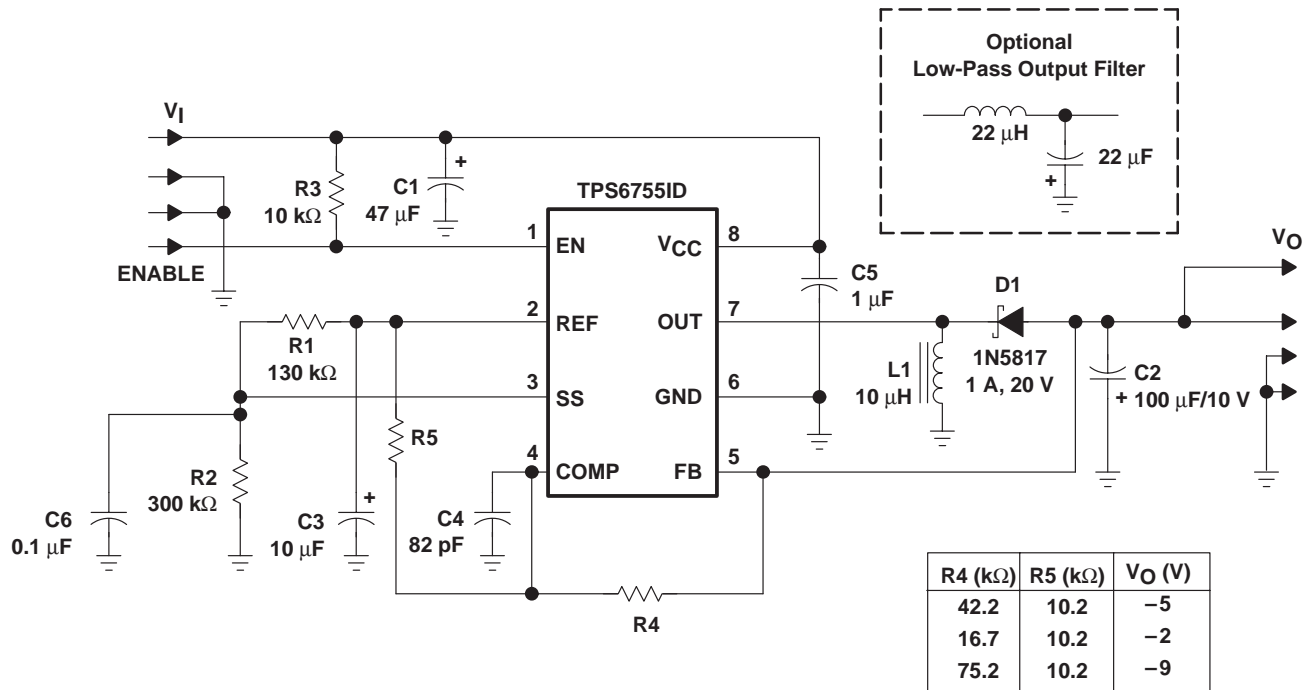

Figure 15. Application Circuit
**electrical characteristics over recommended operating free-air temperature range,  $V_{CC} = 5\text{ V}$ ,  $I_O = 0$ ,  $EN = 5\text{ V}$ , typical values are at  $T_A = 25^\circ\text{C}$  (unless otherwise noted) (refer to Figure 15)**
**performance characteristics over recommended operating free-air temperature range, typical values at  $T_A = 25^\circ\text{C}$  (unless otherwise noted) (refer to Figure 15)**
The TPS6755 operates in the voltage-inverting circuit, shown in Figure 15, which can generate an output. The circuit is ideal for applications that require a negative polarity voltage on the output with respect to the input ground, and for energy management systems. The TPS6755 can be placed in a shutdown mode (1-μA quiescent current) by forcing EN low.
A low-pass filter may be added to the converter output to reduce the output voltage ripple (see Figure 15). The LC filter has a cutoff frequency of 7.2 kHz. The inductor filter must have a low resistance to avoid large output voltage drops. The output voltage ripple is reduced to 5 mV when the LC output filter is used. FB must be connected to the output node before the connection for the low-pass filter.
The output voltage of the TPS6755 is limited to  $|V_O| \leq 12\text{ V} - V_{CC}$  and is set by two external resistors, R4 and R5 (see Figure 15). R5 can be set to any value between 10 kΩ to 20 kΩ, and R4 is calculated using the following formula:  $R4 = |V_O| R5 / 1.22\text{ V}$ . These resistors form a voltage divider between FB, COMP, and REF. The converter adjusts the output such that COMP level is at GND.